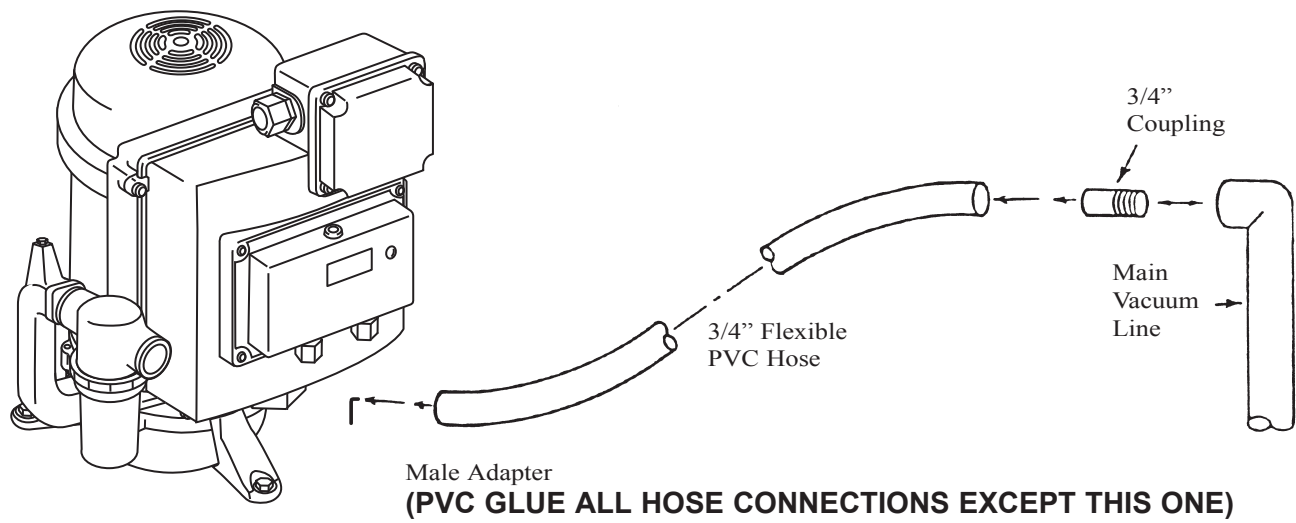

**Figure 3: Typical Dual ECO-STAR Vacuum Installation**
- (f) Make the necessary waste connections. Figures 3 and 4 show typical installations. To install a Tech West Exhaust Separator see the applicable installation sheet.
NOTE: FOR INFORMATION ON CORRECT TERMINATION SIZE AT JUNCTION BOX SEE FIG. 3 NOTE 2.